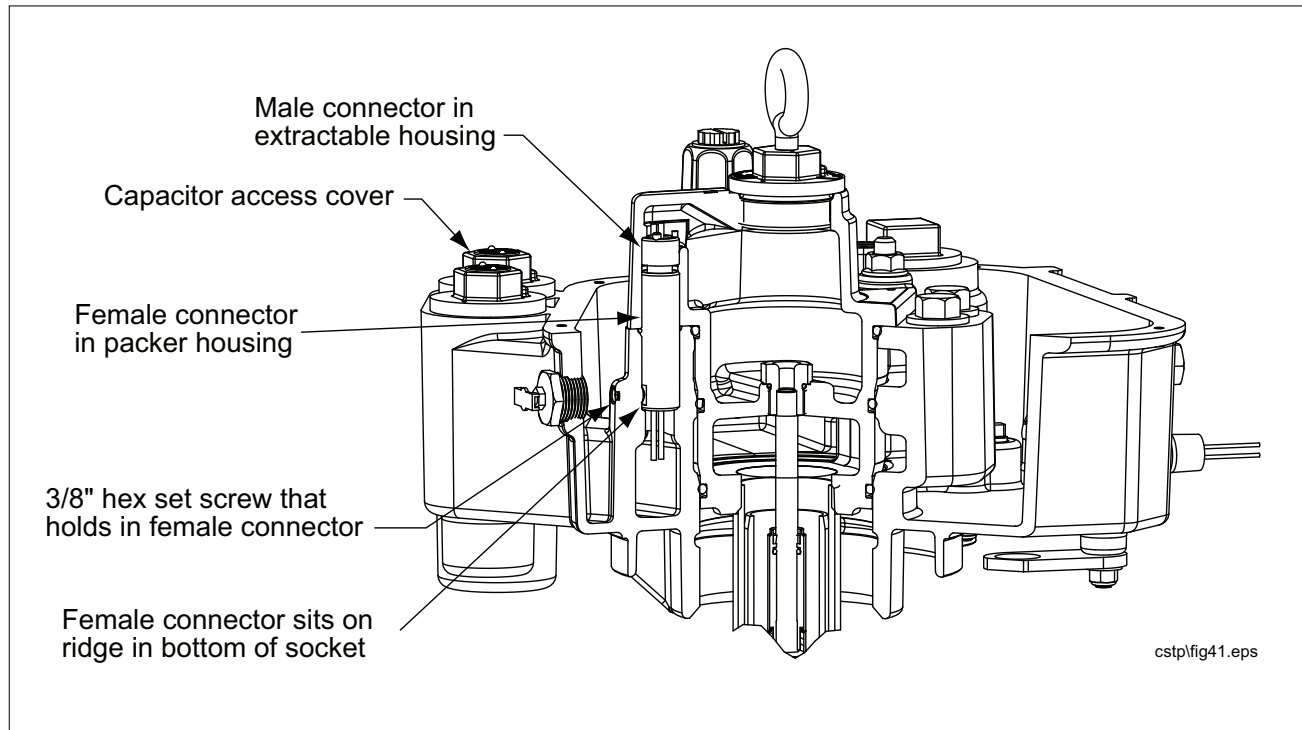

Figure 45. Locating Female Connector Set Screw
23. Using a 3/16" hex wrench, turn the set screw that holds the female connector in place about 1-1/2 turns counterclockwise until you can lift out the connector (see Figure 45).